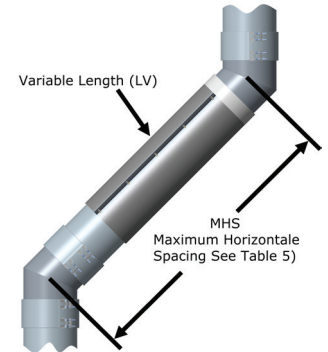

Figure 36b - Maximum Spacing between supports for Offset
- 2- The length of the offset is determined by strength considerations. The maximum distance between supports is given in **Table 7** and **Figure 36b**, and is applicable to all horizontal and sloped orientations